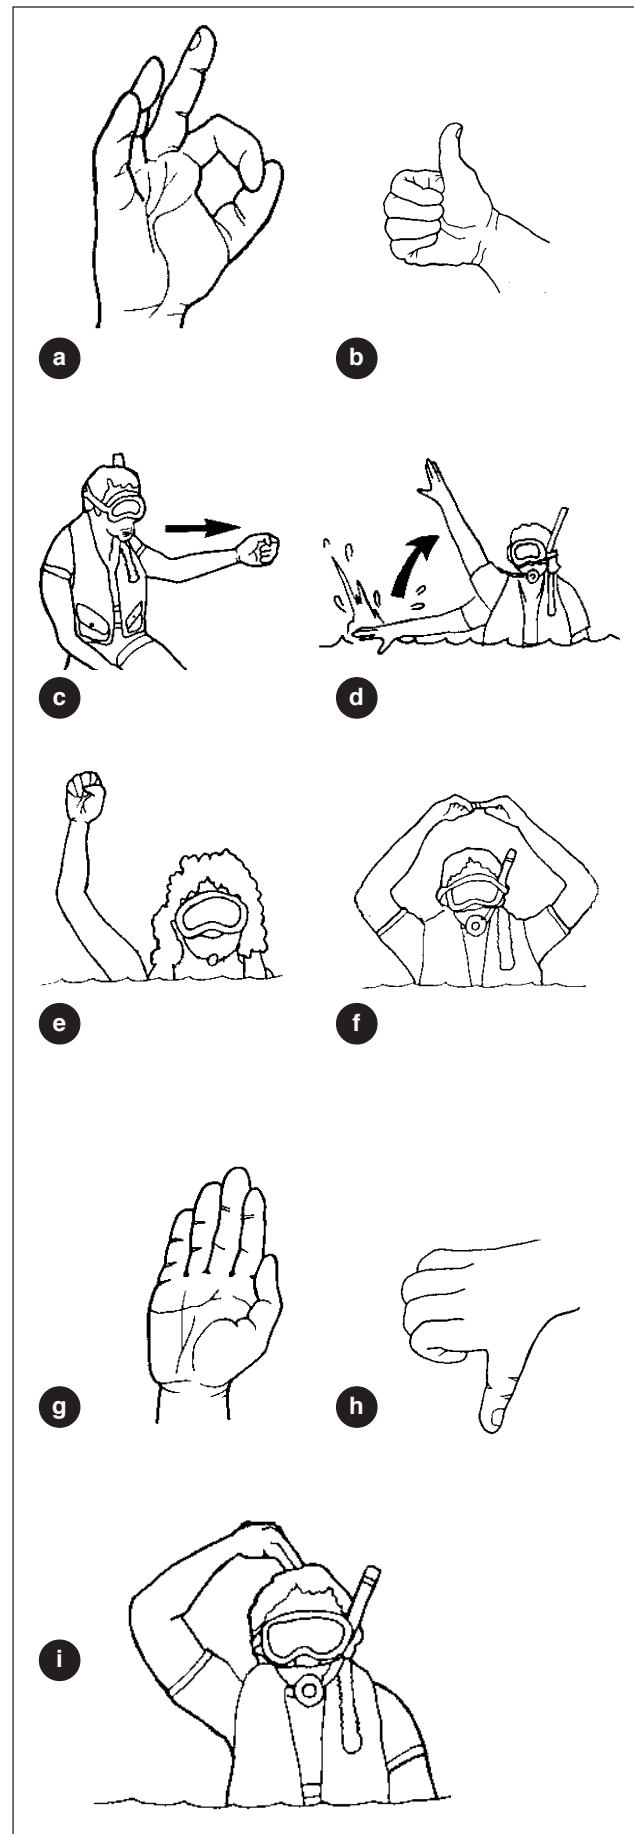

Figure 130.1 Skindiving safety signals, courtesy NAUI Australia
4. Use your textbook to identify the safety signals shown in Figure 130.1.